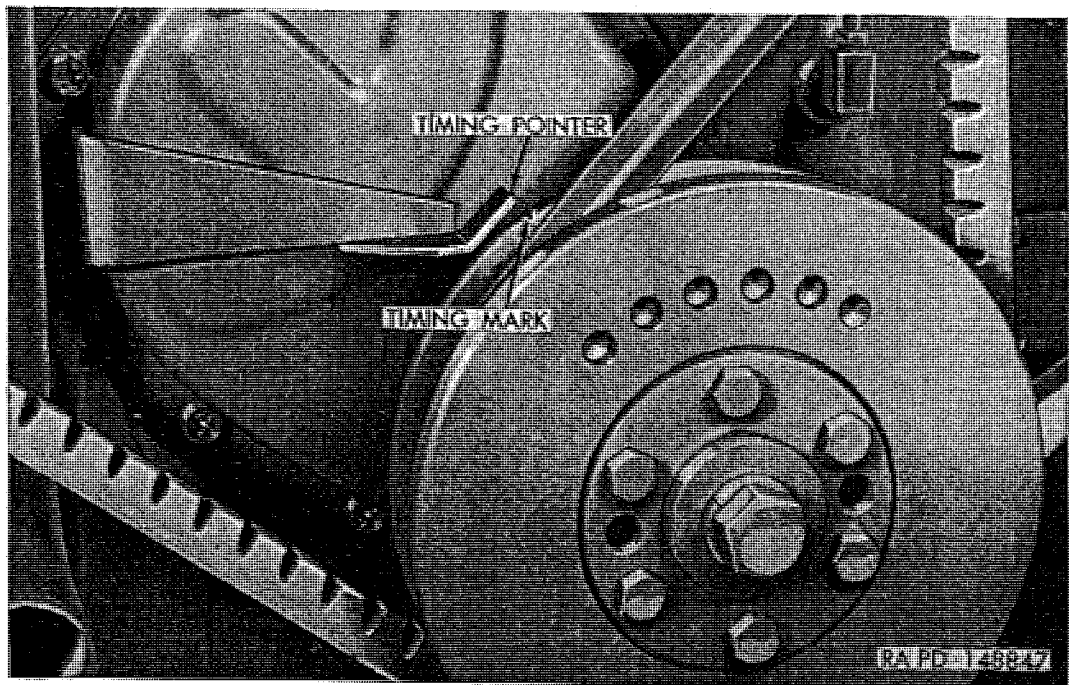
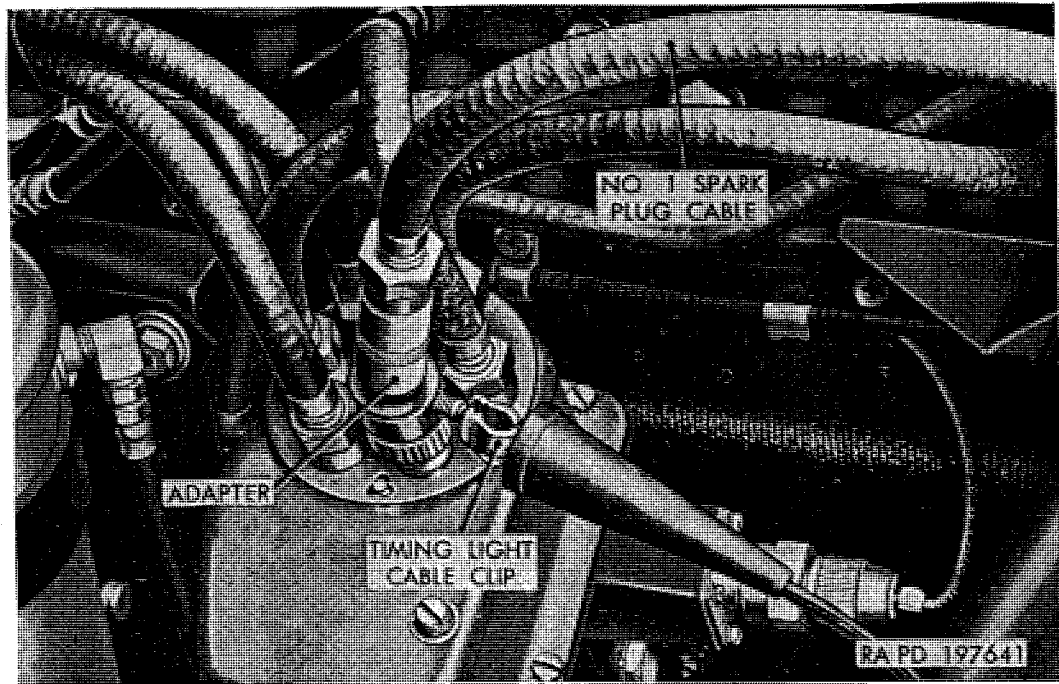
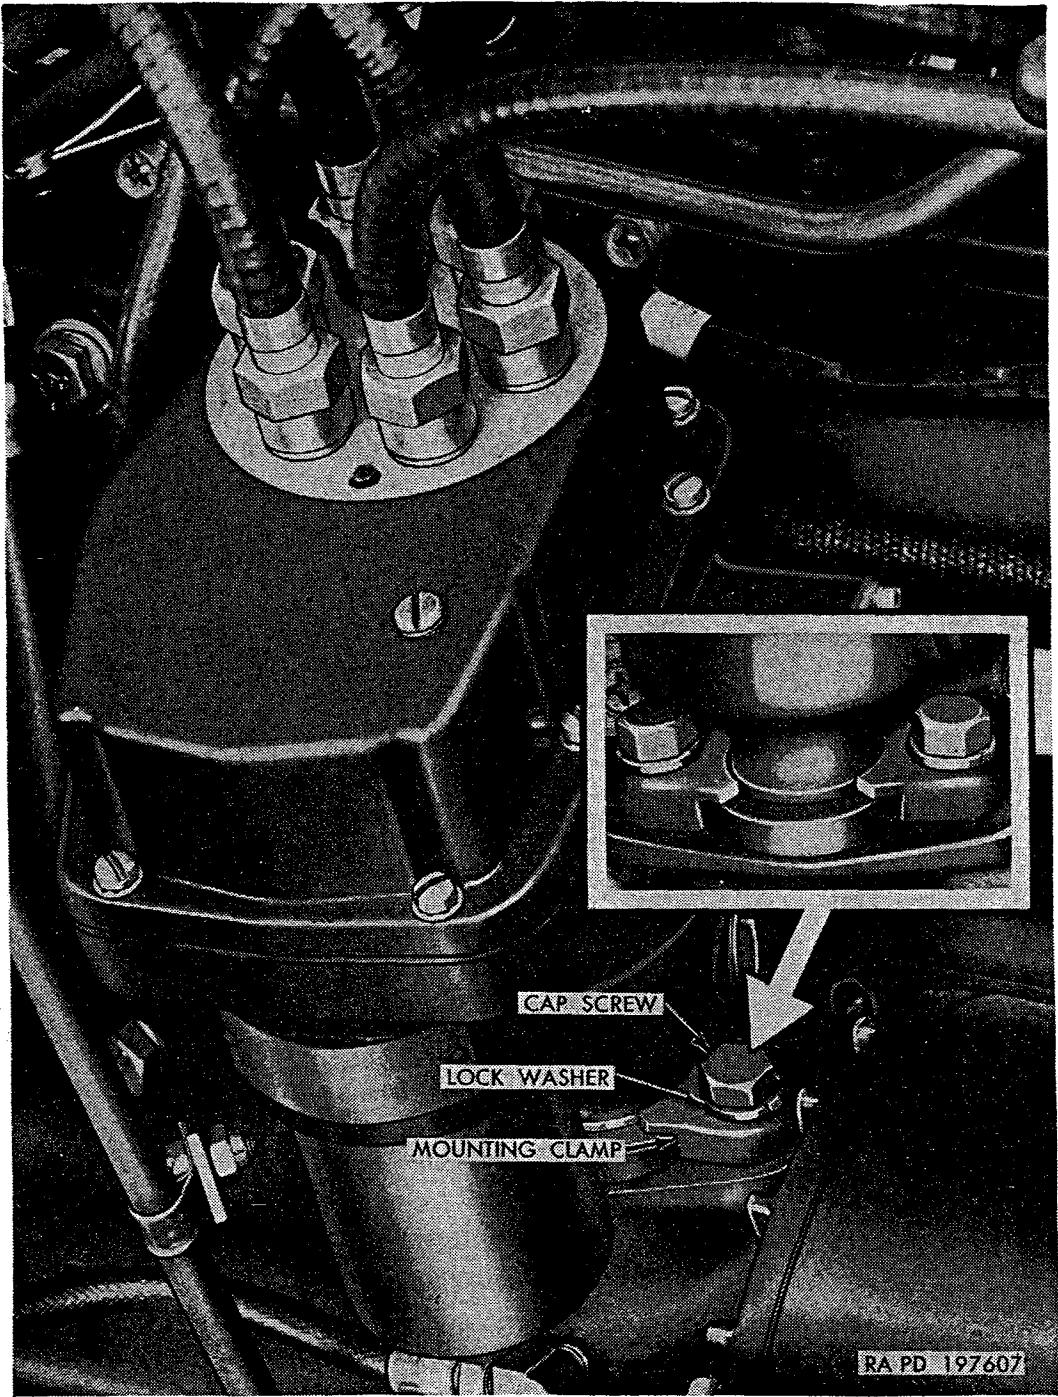
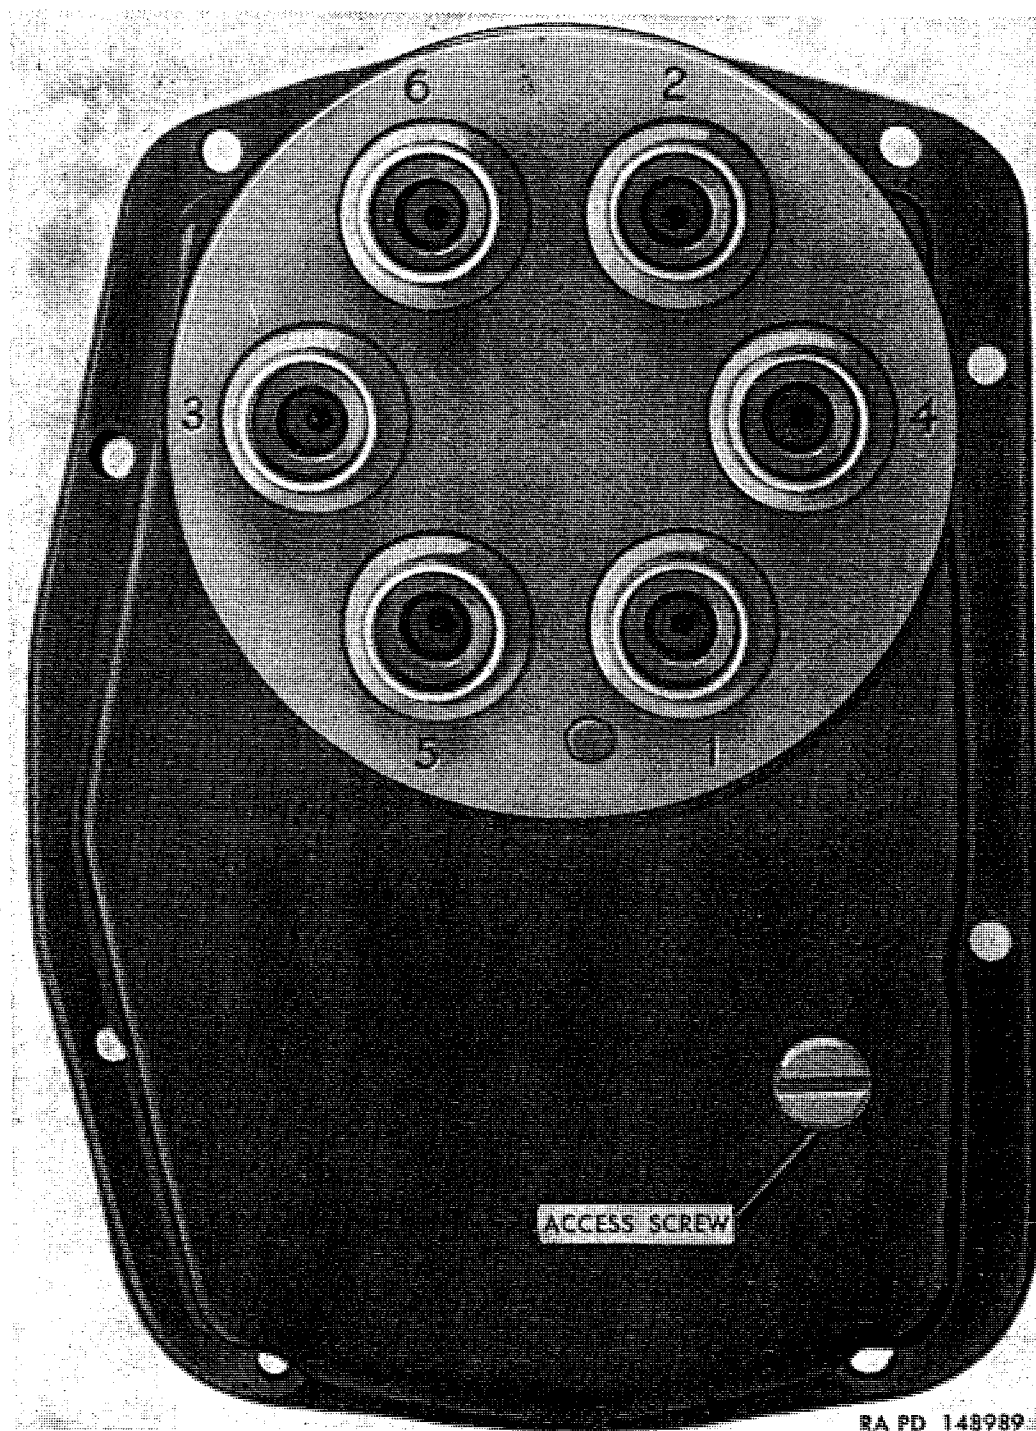

Figure 114. Ignition timing mark and pointer.
Figure 115. Timing light adapter installed.
Figure 116. Distributor mounting.
Figure 120. Top view of distributor cover showing firing sequence dial.
a. *General.* Timing the ignition system comprises initial timing; setting the distributor mechanism to cause opening of points at correct firing intervals, and manual advance adjustment; and retarding or advancing the point opening to compensate for various grades of fuel which may be used. These timing factors require checking and adjusting at engine tuneup periods, or when performance of engine necessitates such action. Ignition timing mark is a notch on crankshaft pulley as shown in figure 114. Timing pointer is attached to engine timing gear cover. Due to the sealed design of the ignition system, an adapter is required for connecting timing light (fig. 115).
- (1) Note location of No. 1 spark plug cable in distributor cover and scribe a mark on distributor housing at this point.
- (2) Remove eight screws attaching cover to housing. Remove cover and gasket. Clean and adjust or replace distributor points if necessary (par. 123*a* or *b*).
- (3) Make sure distributor is properly installed as follows: do not turn ignition switch on. Slowly turn engine over by intermittently operating starter until timing mark (notch on crankshaft pulley) is alined with timing pointer (fig. 114) on timing gear cover. If rotor segment points toward mark indicating No. 1 spark plug cable location, proceed with (4) below. If rotor points toward No. 6 spark plug cable location, turn engine over one complete revolution until timing mark and pointer are alined and again check position of rotor segment. If rotor segment does not point toward No. 1 spark plug cable location, distributor is improperly installed. Remove distributor and install in correct position (par. 123*d* and *e*).
- (4) Install distributor cover, making sure gasket is in place and in good condition. Tighten cover attaching screws.
- (5) Disconnect No. 1 spark plug cable from distributor cover, using crowfoot wrench C7950895 (fig. 76). Thread adapter onto distributor cover; then connect No. 1 spark plug cable to adapter (fig. 115).
- (6) Connect one terminal of timing light to adapter (fig. 115) and connect other terminal to a convenient ground.
- (7) Start engine and run at a slow idle. Direct beam of timing light toward upper edge of timing pointer (fig. 114) on timing gear cover. Timing light flashes make timing mark on crankshaft pulley appear stationary. Loosen distributor clamp cap screws (fig. 116) and turn distributor housing clockwise or counterclockwise as necessary to synchronize flashes with timing mark when it is aligned with upper edge of pointer. Tighten distributor clamp cap screws.
- (1) After engine has been thoroughly warmed up, drive the vehicle, using grade of fuel expected to be used in service. Engine should not ping or knock excessively under load and full throttle.
- (2) A slight amount of ping is not objectionable. If knock is excessive, loosen distributor clamp cap screws (fig. 116) and turn distributor housing clockwise slightly until knock is minimized. Tighten distributor clamp cap screws.
- (3) Turn engine over by intermittently operating starter until notch on crankshaft pulley is alined with pointer (fig. 114) and rotor segment is pointing toward mark on housing indicating No. 1 spark plug cable location.
- (4) Disconnect air vent and vacuum lines from fittings at rear side of distributor housing. Remove two distributor clamp cap screws (fig. 116) and clamps attaching distributor housing to cylinder block.
- (5) Carefully lift distributor straight up out of cylinder block, observing that rotor turns clockwise a few degrees as gears disengage; mark this position of rotor on distributor housing.
- (1) If engine has not been turned over since removal, proceed as in (a) and (b) below.
- (2) If engine has been turned over since distributor removal, remove cylinder head cover from engine (par. 113b). Turn engine over by intermittently operating starter and observe movement of No. 1 intake valve (second valve from front). When No. 1 intake valve starts to close (raise up), continue to turn engine slowly until notch on crankshaft pulley is alined with pointer (fig. 114). Engine is then in No. 1 firing position and distributor may be inserted as directed in (1) above.
- (3) Install two mounting clamps, $\frac{3}{8}$ -16 x 1 cap screws, and $\frac{3}{8}$ -inch lockwashers (fig. 116) securing distributor to cylin-
- (4) Check and adjust point opening (*a* above).
- (5) Install distributor cover, making sure gasket is in place and in good condition. Connect spark plug cables to distributor cover, making sure they are connected to provide correct firing order (1-5-3-6-2-4, fig. 120).
- (6) Check ignition timing and adjust if necessary (par. 122).